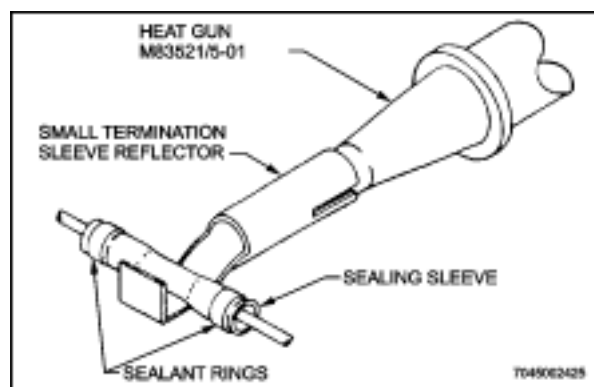

Figure 5-14 Splice Sealing
- p. Shrink sealing sleeve using hot air gun with small termination reflector. Shrink the middle first and heat towards one end until sealant melts and begins to flow out of sleeve (Figure 5-14).